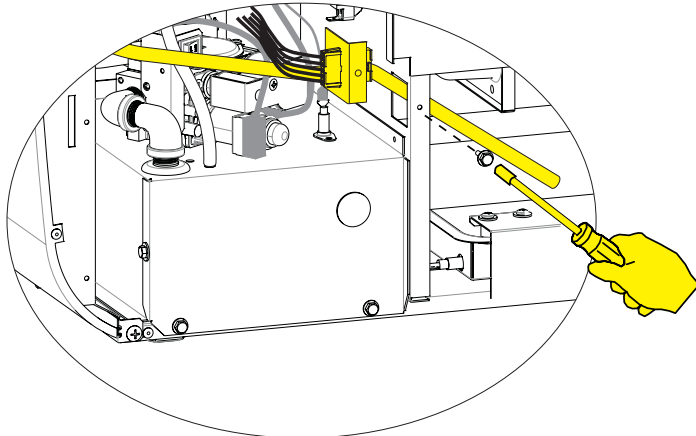

Figure 9
12. Insert the straight end of the metal condensate tube into the partition panel and secure the condensate tube bracket with the screw removed in step 10. Ensure that the condensate tube discharges into the heated tray in front of the heat exchanger tubes, and that the “L” shaped end of the tube is pointed into the wall furnace. **See Figure 9.**